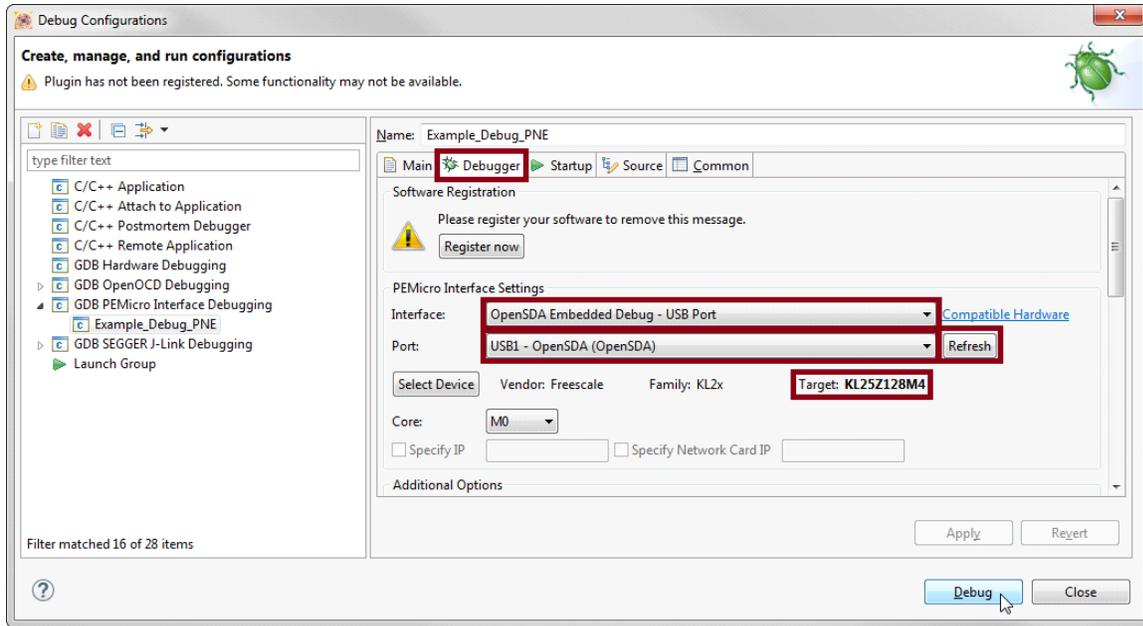

Figure 17. Downloading the application (b)
4. Click the **Debugger** tab and set the **Interface** option to **OpenSDA Embedded Debug - USB Port**. Then click the **Refresh** button next to the **Port** setting to update the list of available USB ports (see Figure 17).